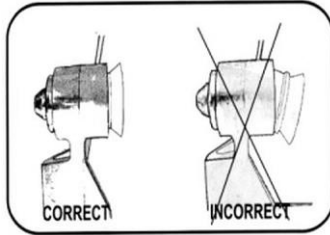

Fig. 35
5. Insert the suction cap into the space of the spiral, pressing it deeply (Fig. 35).